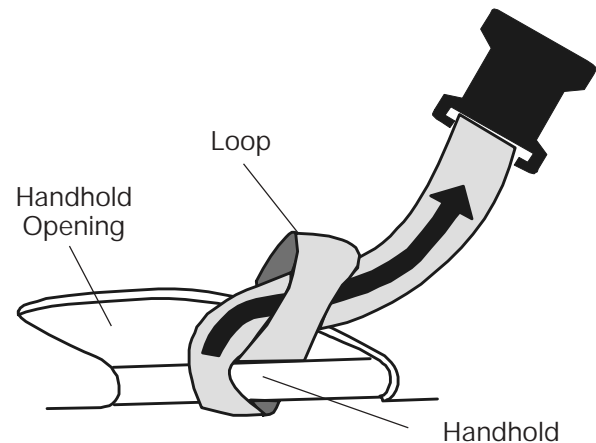

Figure 8 - Attaching Two-Piece Restraint
3. Hold the loop open and thread the buckle of restraint through loop (Figure 8).